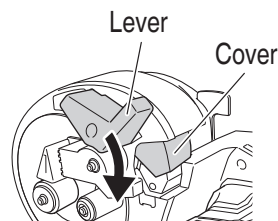

Fig. 2
7. Make absolutely sure that the cutter cover is closed when you don't carry out the cutting work. If the cover is kept open, the cutter can jam on foreign objects and cause serious accidents. (Fig. 2)